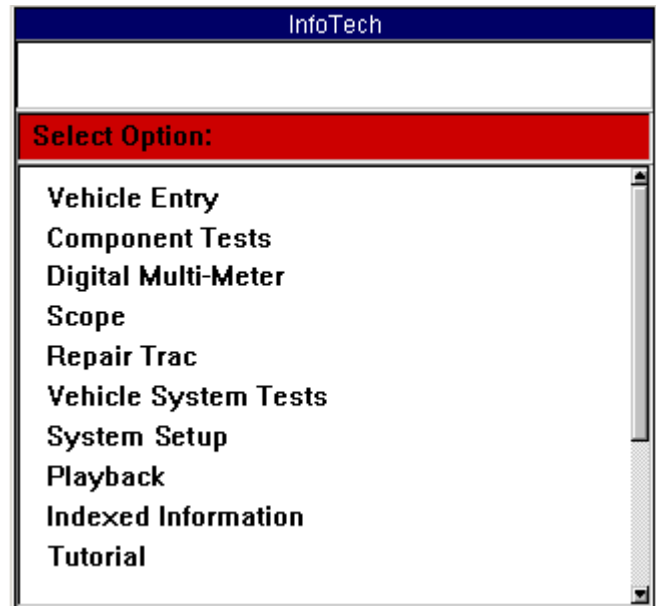
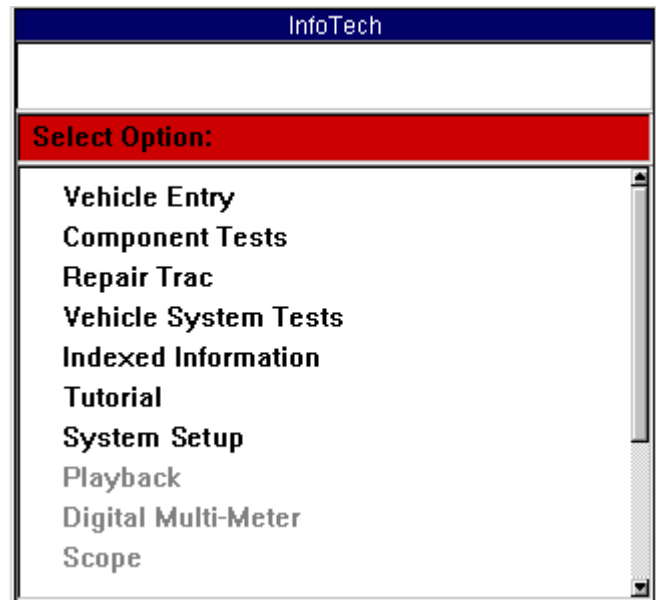
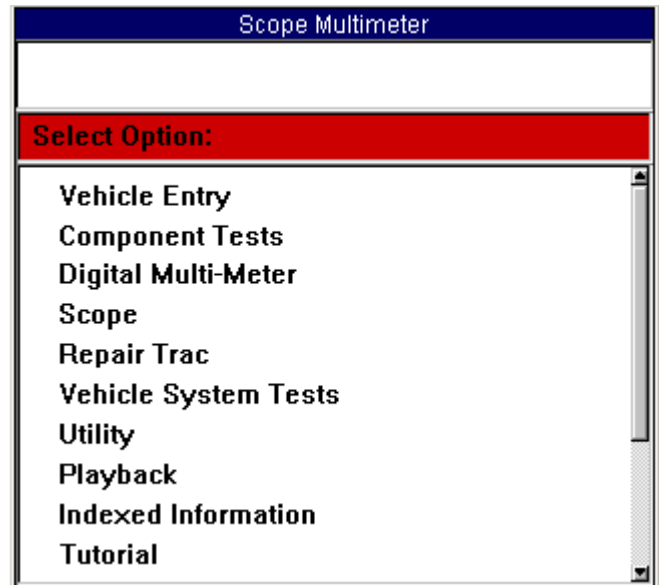
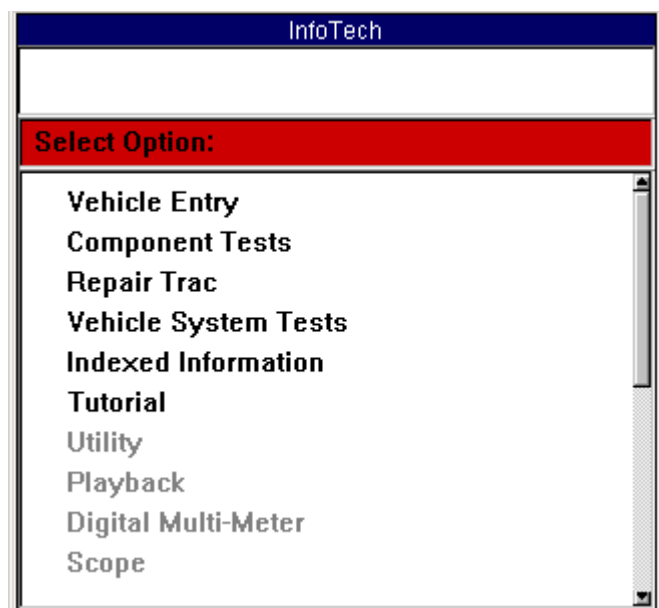

Figure 1.13: Solarity InfoTech Main Menu Screen, Scope Module Connected
Figure 1.14: Solarity InfoTech Main Menu Screen, Scope Module Removed
Figure 1.16: NGIS Tool Scope Multimeter Main Menu Screen
Figure 1.17: NGIS Tool InfoTech Main Menu Screen
- If the Scope module is connected, the Scope with InfoTech software starts and all of the menu options are black to indicate they are all available for use (Figure 1.13).
- If the Scope module is removed, the InfoTech software starts (without Scope) and only the InfoTech menu options are available for use. The Scope options display at the bottom of the screen and are grey to indicate they cannot be used. (Figure 1.14).
- If the Scope module is connected and you select **Diagnostic Toolbox** and then **Scope with InfoTech** from the menu screens, the Scope with InfoTech software starts and the Scope Multimeter main menu screen appears. All of the menu options are black to indicate they are all available for use. (Figure 1.16).
- If the Scope module is removed and you select **Diagnostic Toolbox** and then **Scope with InfoTech** from the menu screens, the InfoTech software starts (without Scope) and the InfoTech main menu screen appears. Only the InfoTech menu options are black to indicate they are available for use. The Scope options display at the bottom of the screen and are grey to indicate they cannot be used. (Figure 1.17).
- If the Scope module is connected or removed and you select **Repair Information** and then **InfoTech** from the menu screens, the InfoTech software starts and the InfoTech main menu screen appears. Only the InfoTech menu options are available for use (Figure 1.17).
The options that appear on the main menu screens access the software functions (see Figure 1.13 and Figure 1.14 on page 5, and Figure 1.16 and Figure 1.17 on page 6). The software functions are described below.